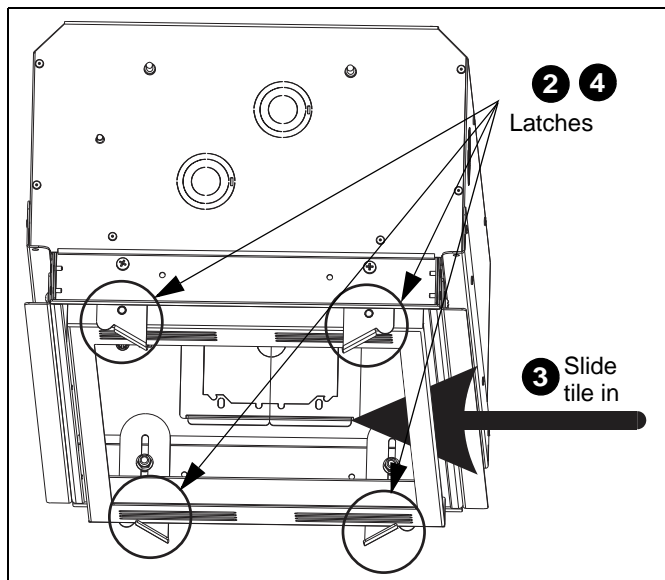

**Figure 13**
4. Secure the MSP-CACMS491 (A) in place using four 10-24 x 5/8" Phillips pan head tapping screws (G) through two holes at each end of MSP-CACMS491. (See Figure 13)